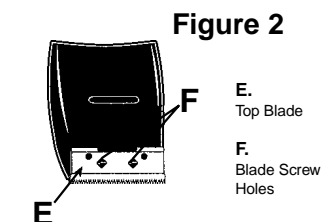

Figure 2
1. **Fixed Blade Units:** Place new top (small) blade into position on clipper head (Figure 2). Position new bottom (large) blade to align blade screw holes in blade and housing. Replace screws so they are snug but not tight.